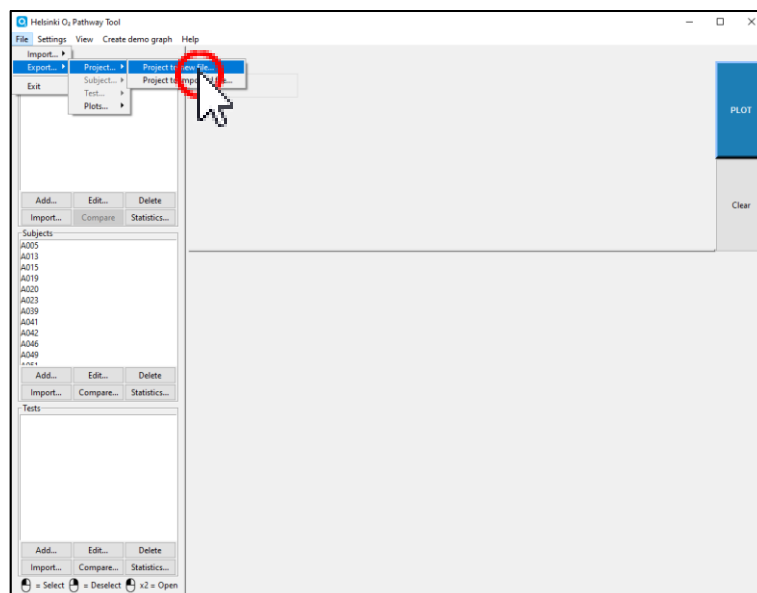

Figure 46
4. Select an exporting method from the “File” menu in the main menu bar (figure 46).